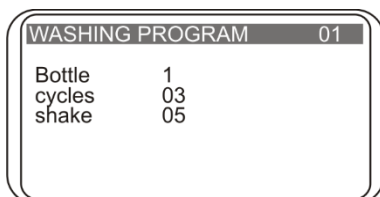

Figure 7. Display during operation
- 5.16. During operation, display shows program number, currently used bottle number and the number of cycles left (fig. 7). If the current action has time tracking (soaking or shaking), then the elapsed time is displayed.